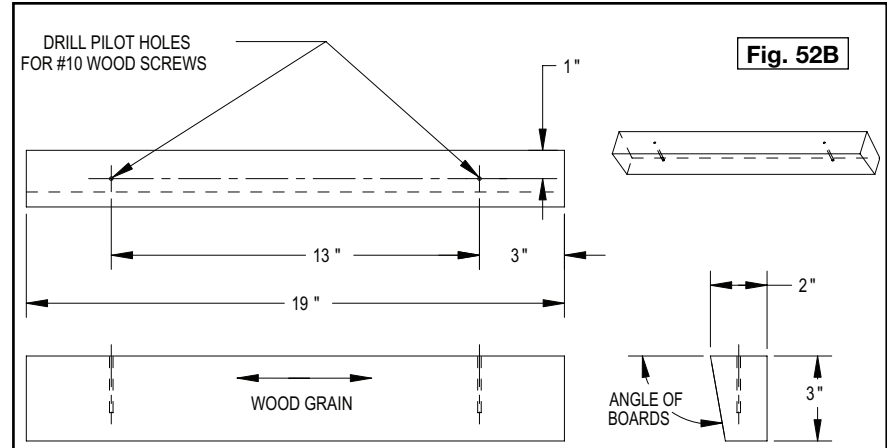

Fig. 52B
- Step 1** - Make an angled clamping board according to the drawing (Fig. 52B). Match the angle of the clamping board to the joint angle.